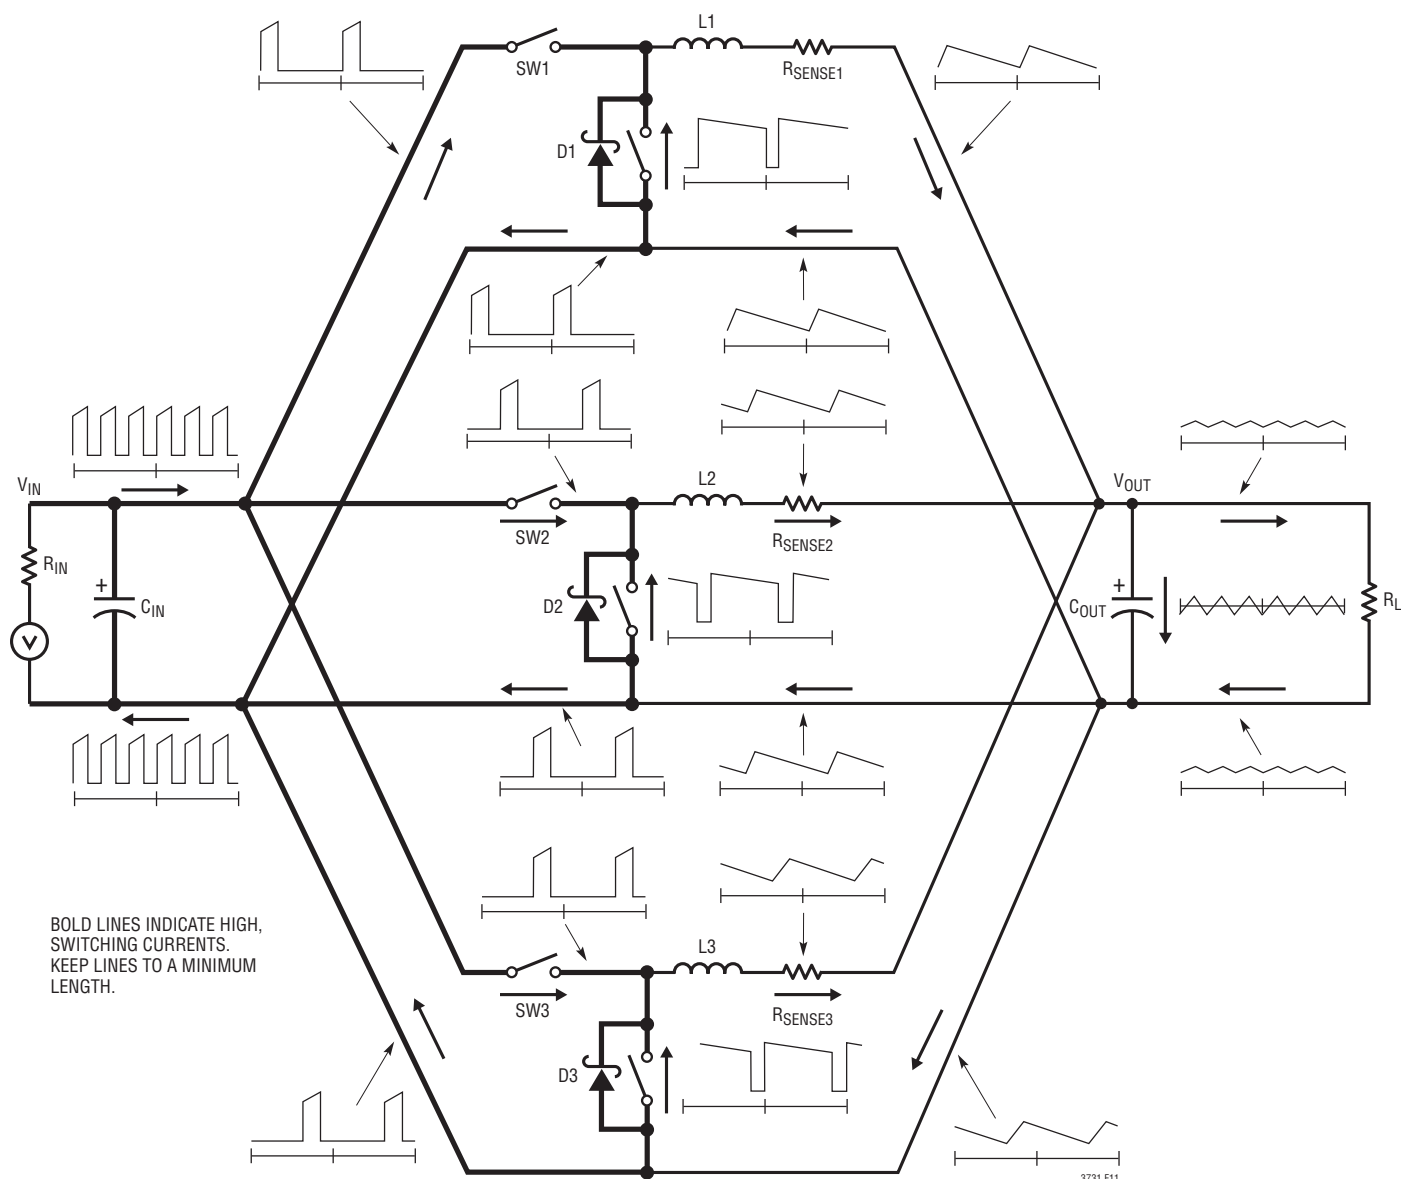

Figure 11. Branch Current Waveforms
When laying out the printed circuit board, the following checklist should be used to ensure proper operation of the IC. These items are also illustrated graphically in the layout diagram of Figure 11. Check the following in the PC layout:
- Figure 11 illustrates all branch currents in a three-phase switching regulator. It becomes very clear after studying the current waveforms why it is critical to keep the high switching current paths to a small physical size. High electric and magnetic fields will radiate from these “loops” just as radio stations transmit signals. The output capacitor ground should return to the negative terminal of the input capacitor and not share a common ground path with any switched current paths. The left half of the circuit gives rise to the “noise” generated by a switching regulator. The ground terminations of the synchronous MOSFETs and Schottky diodes should return to the bottom plate(s) of the input capacitor(s) with a short isolated PC trace since very high switched currents are present. A separate isolated path from the bottom plate(s) of the input and output capacitor(s) should be used to tie in the IC power ground pin (PGND). This technique keeps inherent signals generated by high current pulses taking alternate current paths that have finite impedances during the total period of the switching regulator. External OPTI-LOOP compensation allows overcompensation for PC layouts which are not optimized but this is not the recommended design procedure.